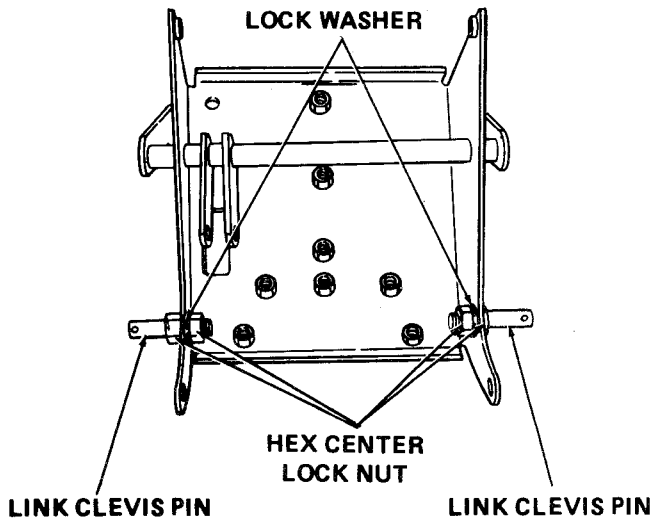

Figure B-6
1. Assemble 3-point hitch plate (1) as follows:
- a. Insert threaded ends of link clevis pins (C) into sides of 3-point hitch plate assembly and secure with lock washers (D) and hex center lock nuts (E). Refer to Figure B-6.